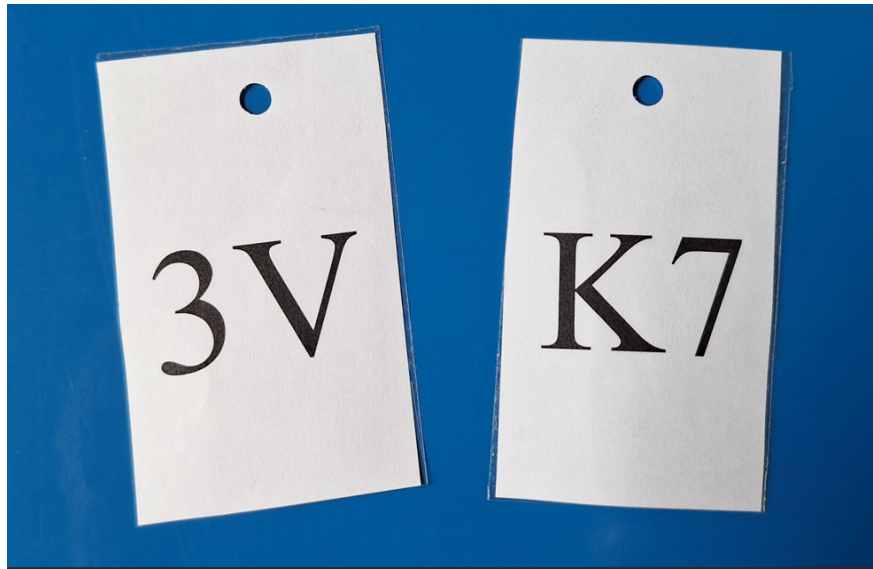

Figure 2: Example tags
7. The survey area will be populated with fake deer represented by plastic deer decoys (example here; exact model may vary; expect deer with and without antlers). Some deer will have a tag on their ear. Each tag has a unique 2-digit alphanumeric code of font size 85pt (~3cm) or greater. The same code will be printed on both faces of the tag. Tags will be laminated paper. Two example tags are shown in Figure 2: